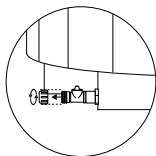

Figure 13.5b
3. Unscrew the cap from the spa drain, Figure 13.5b.